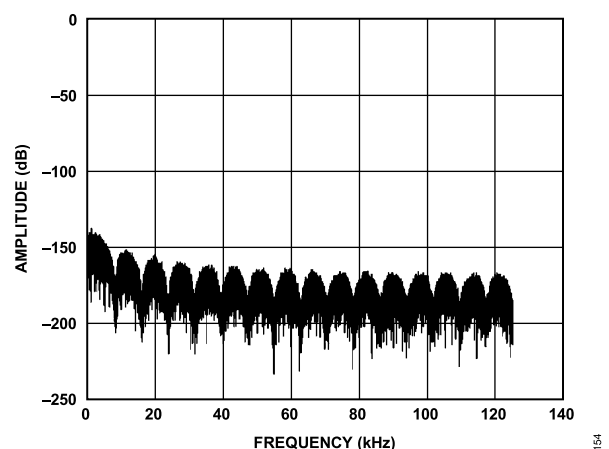

Figure 154. Example of Filter Profile Upload
The following sequence programs a Sinc1 filter. The coefficients in Address 0 to Address 23 = 0. The coefficients from Address 24 to Address 55 = 131,072 ($2^{22}/32$). When MCLK = 16.384 MHz and ODR = 256 kHz, the filter notch appears at 8 kHz and multiples of 8 kHz. This filter provides low noise and is recognizable by the distinctive filter profile shown in Figure 154.
17. Gather data. Figure 154 shows the resulting filter profile.